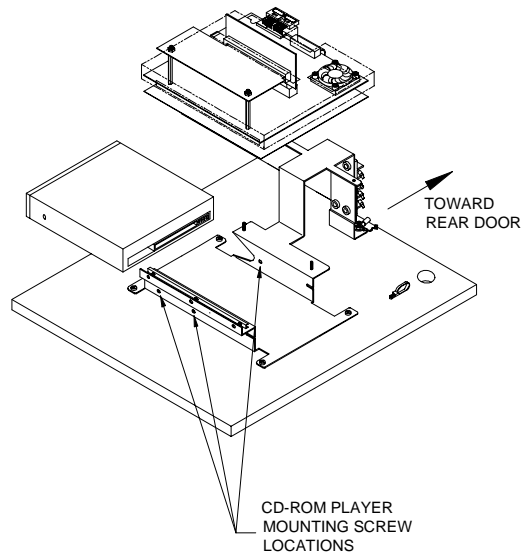

FIGURE 14 - HARD DRIVE/CENTRONICS INSTALLATION
11. Locate the remaining screw, located behind the power supply and beneath the motherboard assembly, securing the CD player to the metalwork, and remove it (see Figure 14 for location).